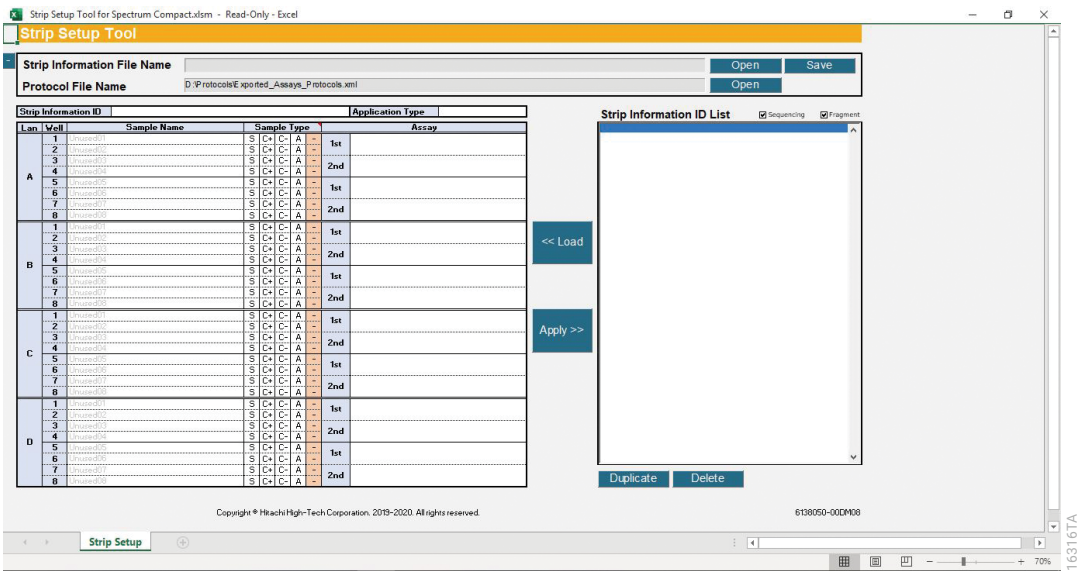
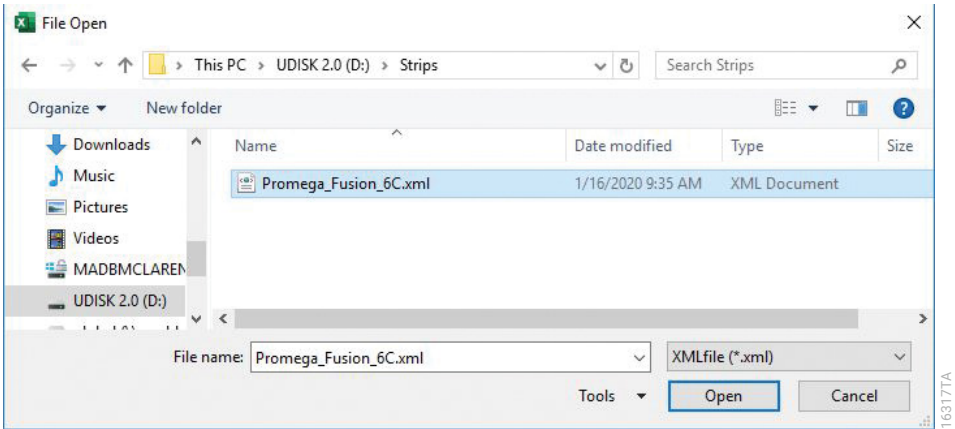
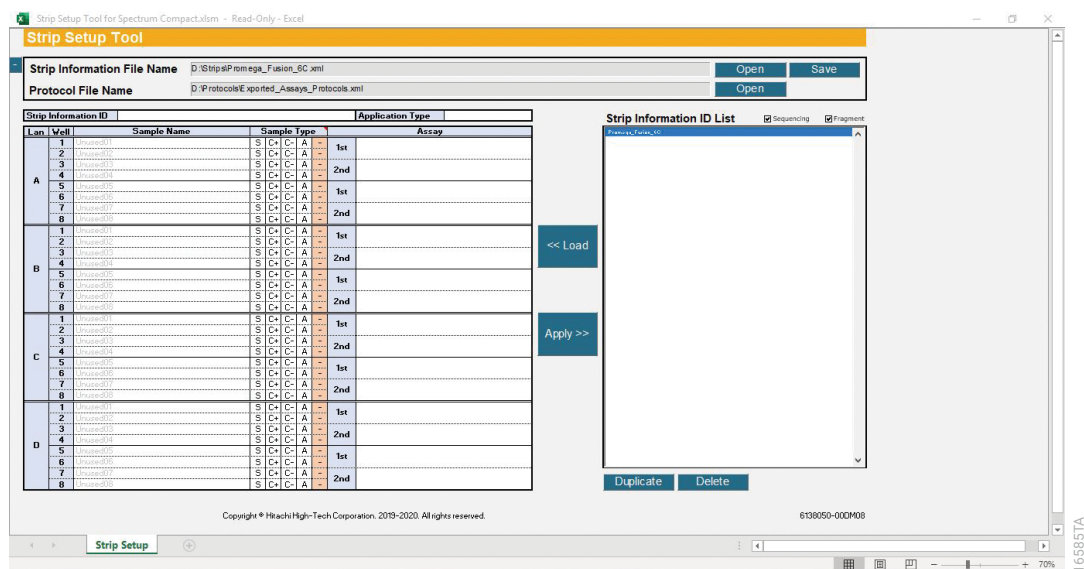

Figure 215. Strip Setup Tool for Spectrum Compact with Protocol .xml file in Protocol File Name.
Figure 216. Browsing window.
Figure 217. Strip Setup Tool for Spectrum Compact with strip .xml file in Strip Information File Name.
- After opening a protocol .xml file within the Strip Setup Tool for Spectrum Compact, select **Open** on the right-hand side of the Strip Information File Name box (Figure 215). This opens a browsing window. Browse to the location of the strips .xml file created and select **Open** (Figure 216). A Microsoft® Excel® window will appear stating "Strip information file read complete". Select **OK** to close out of this window. The strip .xml file name is now displayed at the top of the Strip Setup Tool in the Strip Information File Name box (Figure 217).
2. Select the desired Strip in the Strip Information ID List on the right-hand side of the screen followed by **Load** (Figure 217).